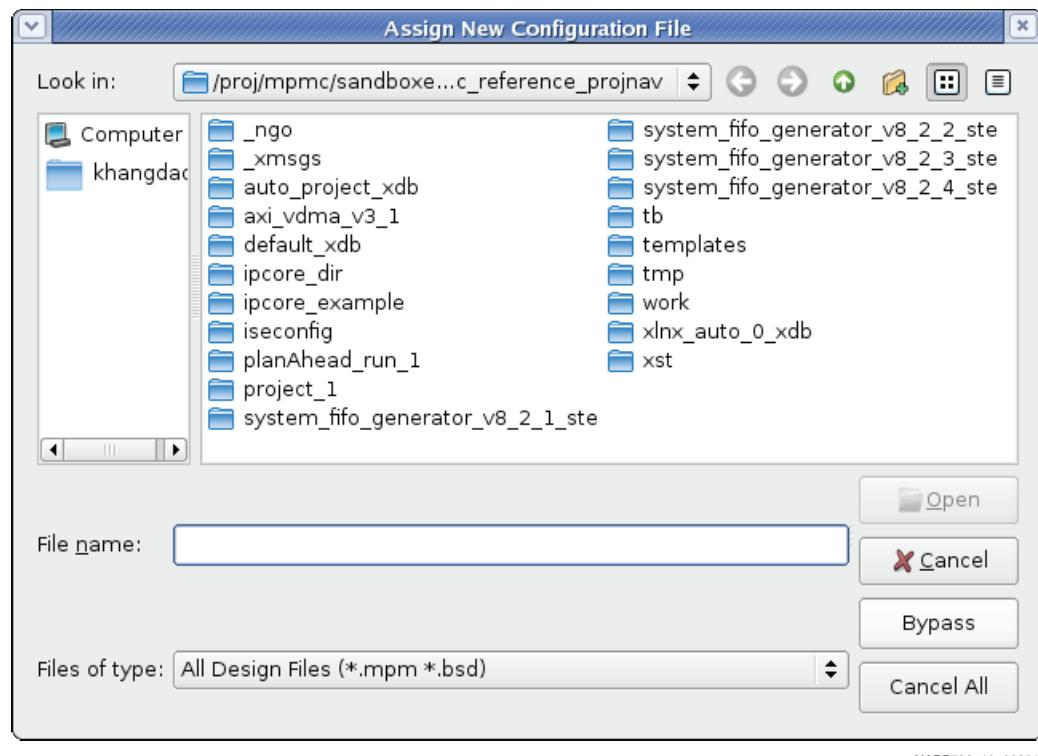

Figure 13: Assign New Configuration File (SystemAce Interface)
19. For the first device in the JTAG chain, the SystemAce™ interface, click **Bypass** (Figure 13).